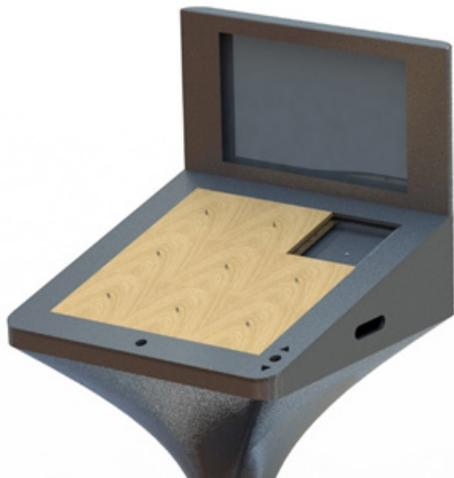

Figure 16 – Sliding Pieces fitting within the frame
Fasten the Handles (24) to the Sliding Pieces (13), using a screw (23) that must be placed **under the Sliding Piece**, figure 16. The whole puzzle piece assembly can then be slid in place in the aluminium frame.